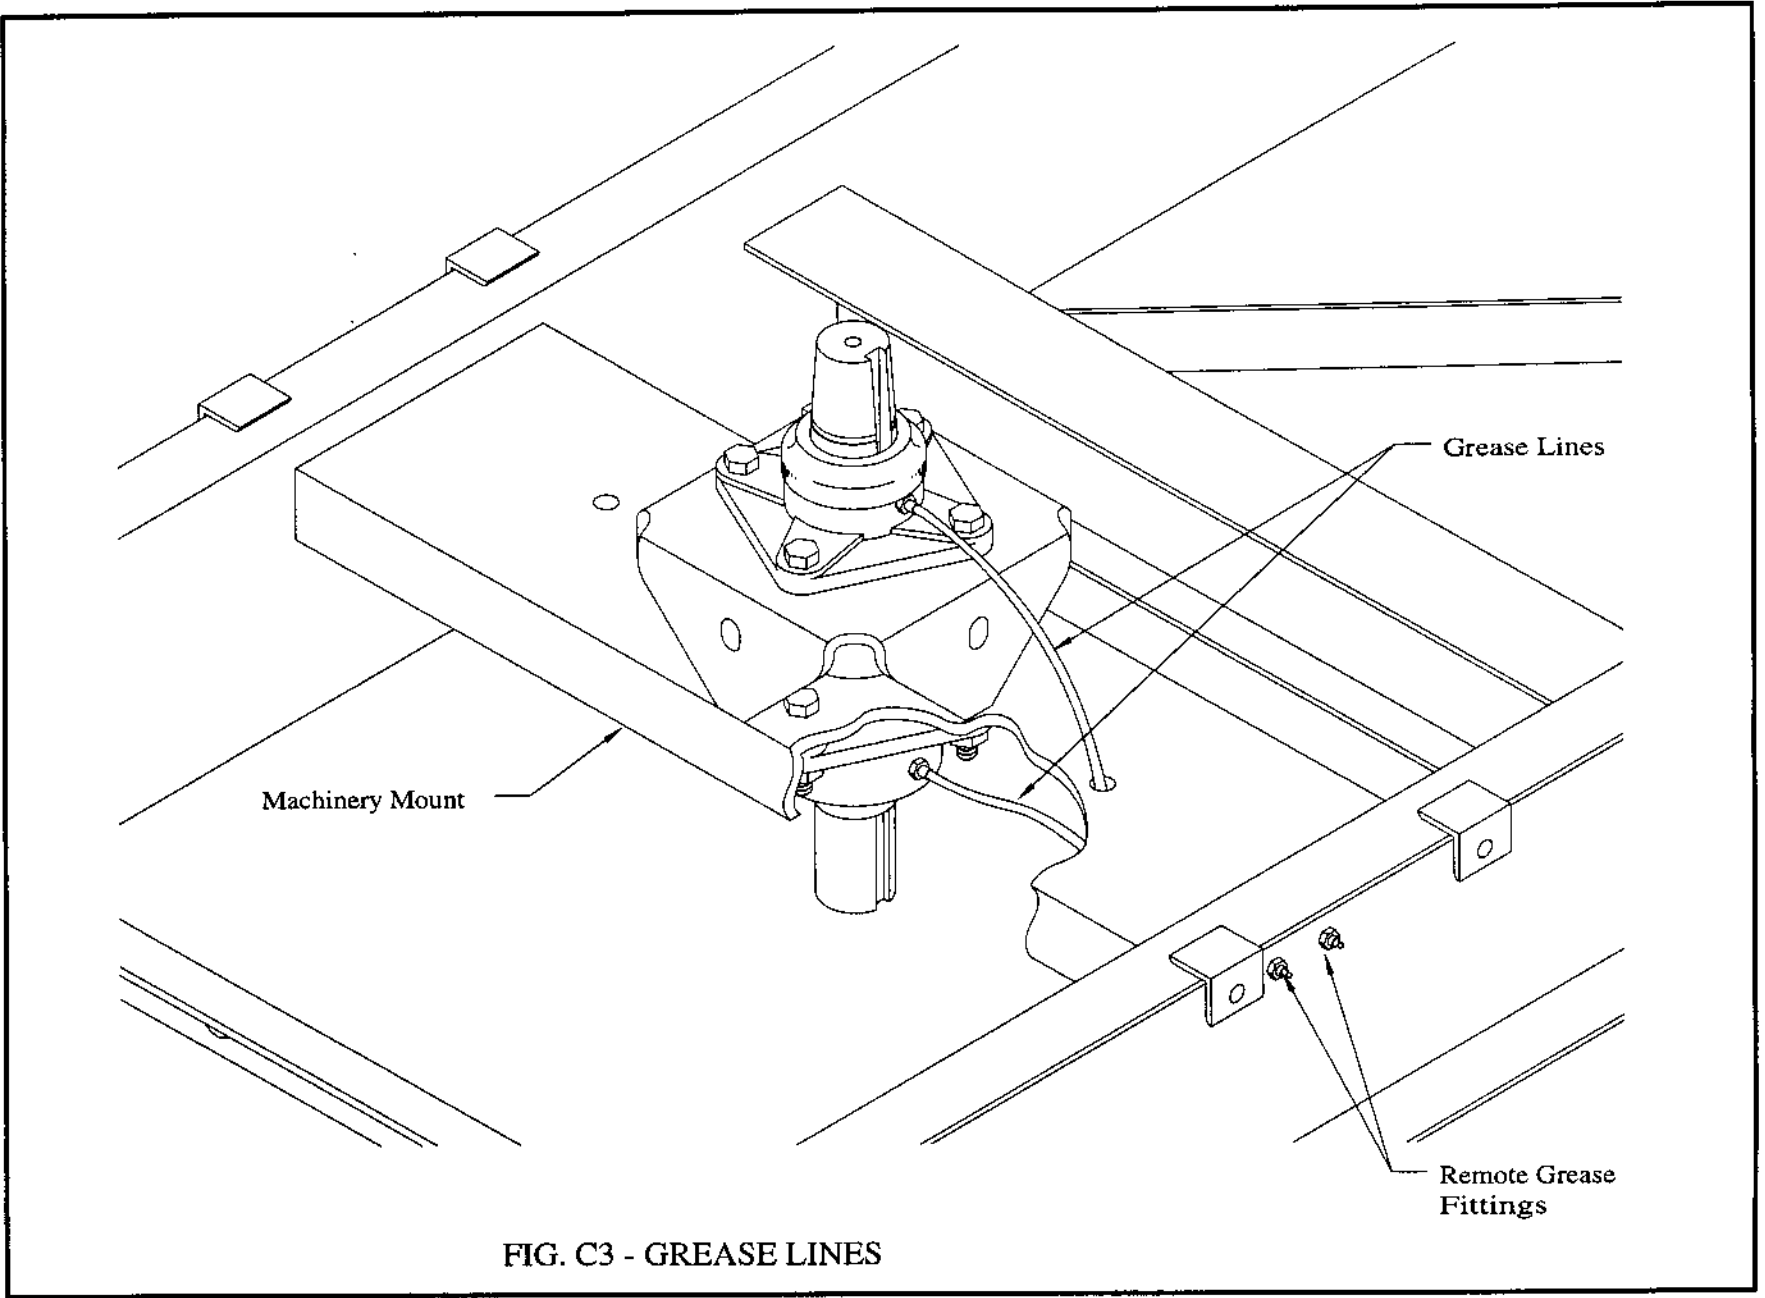

FIG. C3 - GREASE LINES
4. Install grease lines to fan shaft bearings. See Fig. C3 and "DRIVE ASSEMBLY" section of Parts List for grease line fittings and couplings. Grease bearings per "LUBRICATION INSTRUCTIONS FOR FAN SHAFT BEARINGS".